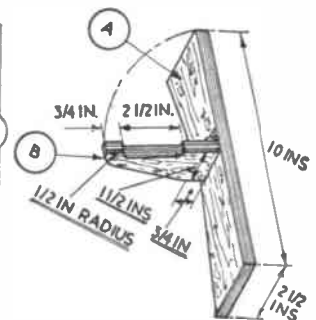

Fig. 2
shapes of (A) and (B) (Fig. 2). Cut them out and hinge them together as shown. After staining glue them in place on the underside of the table-top in the appropriate positions 11 $\frac{1}{2}$ ins. apart.